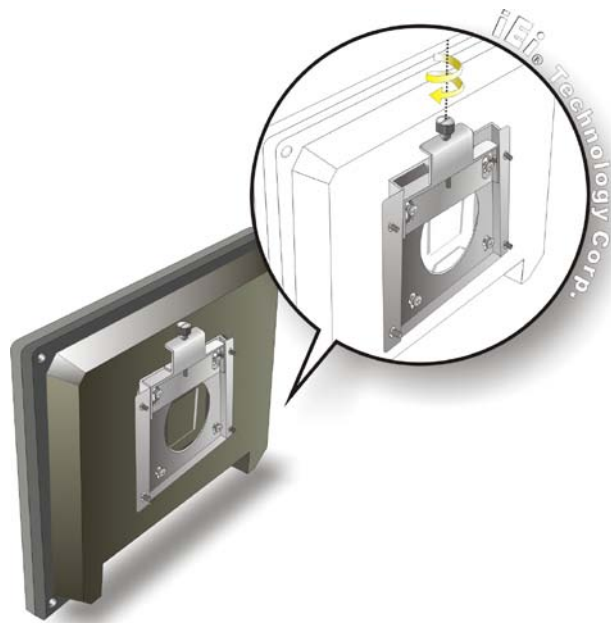

Figure 4-18: Secure the Panel PC
Step 11: Secure the panel PC by fastening the retention screw of the wall-mounting bracket. (**Figure 4-18**).